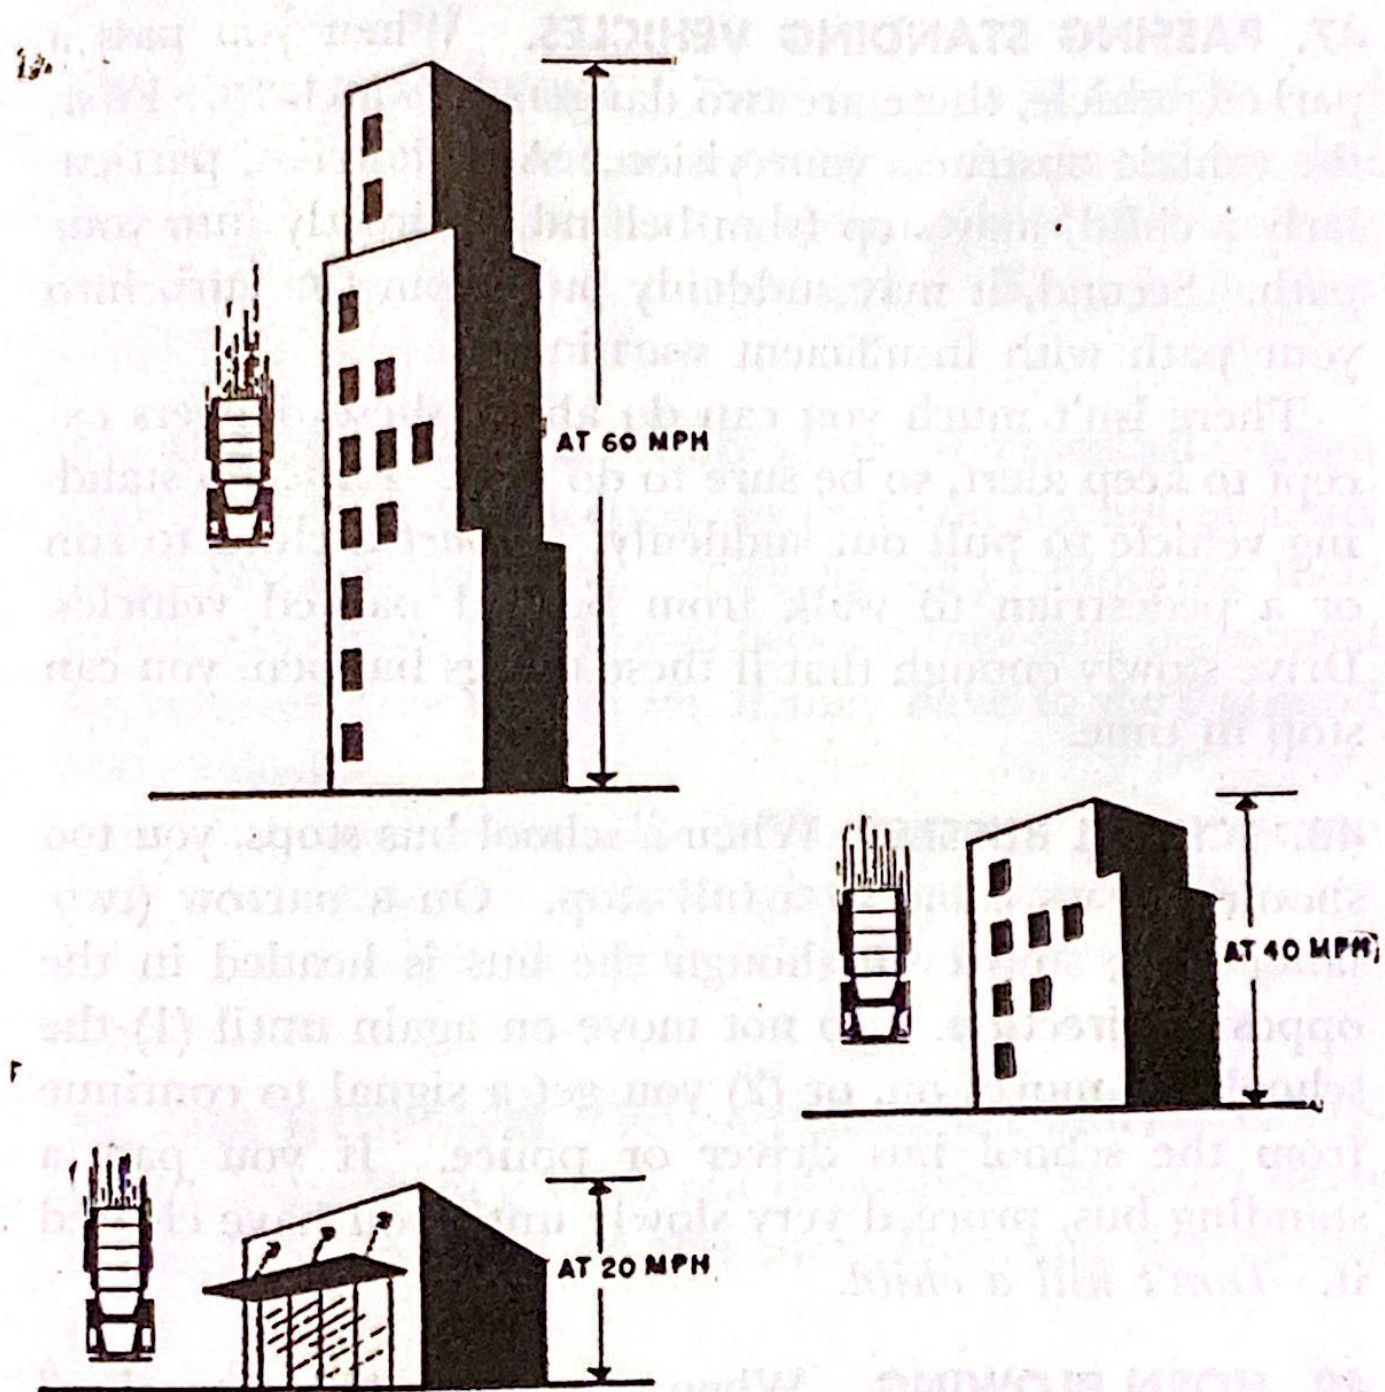

Figure 21. The lower the speed the less the crash.
45. SPEED INCREASES DANGER IN FOUR WAYS. One quarter of all fatal motor vehicle accidents in the United States involve excessive speed by one or more drivers. (See fig. 21.) High speed increases danger in four ways: